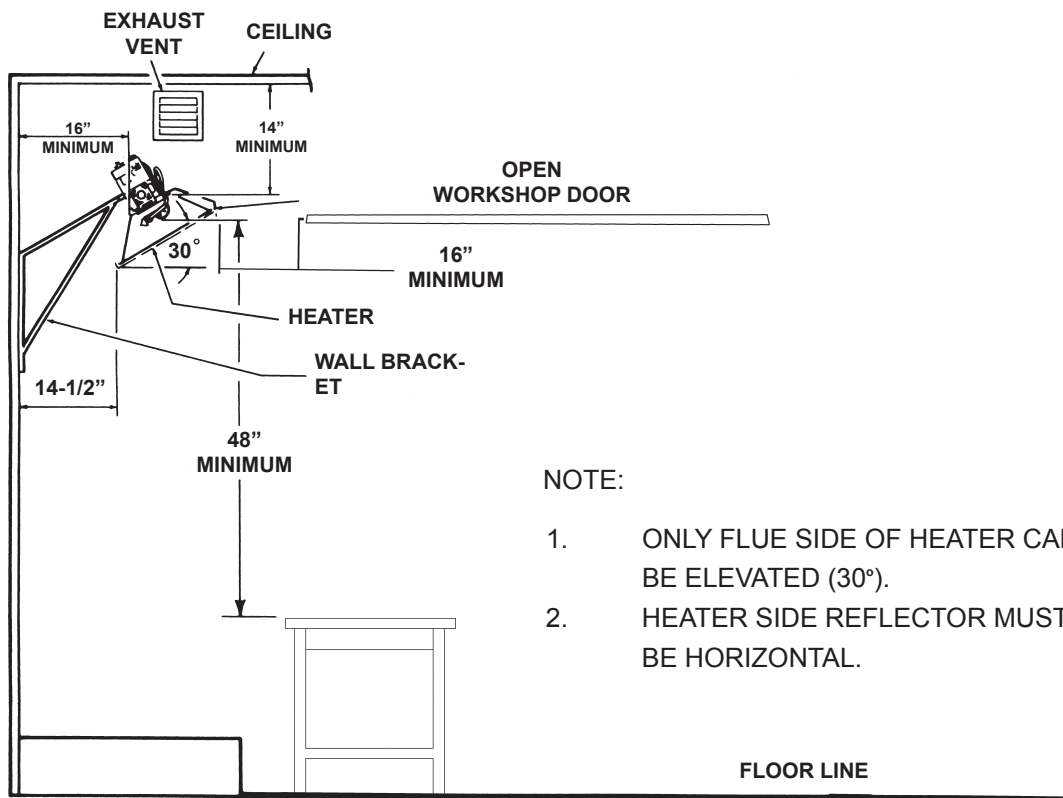

Figure 2. Installation Clearances to Combustible Surfaces
Maintain clearances as shown in Figure 2 or on heater nameplate.
⚠ WARNING: Maintain clearances as shown in Figure 2 or on heater nameplate.
- The required minimum clearances to combustible surfaces are illustrated in Figure 2 and Table 3. As shown on Figure 2, the front of the heater is installed at the minimum required clearance to combustible surfaces and toward open space, and then the other sides must have a minimum clearance of 16 inches to combustible surfaces.